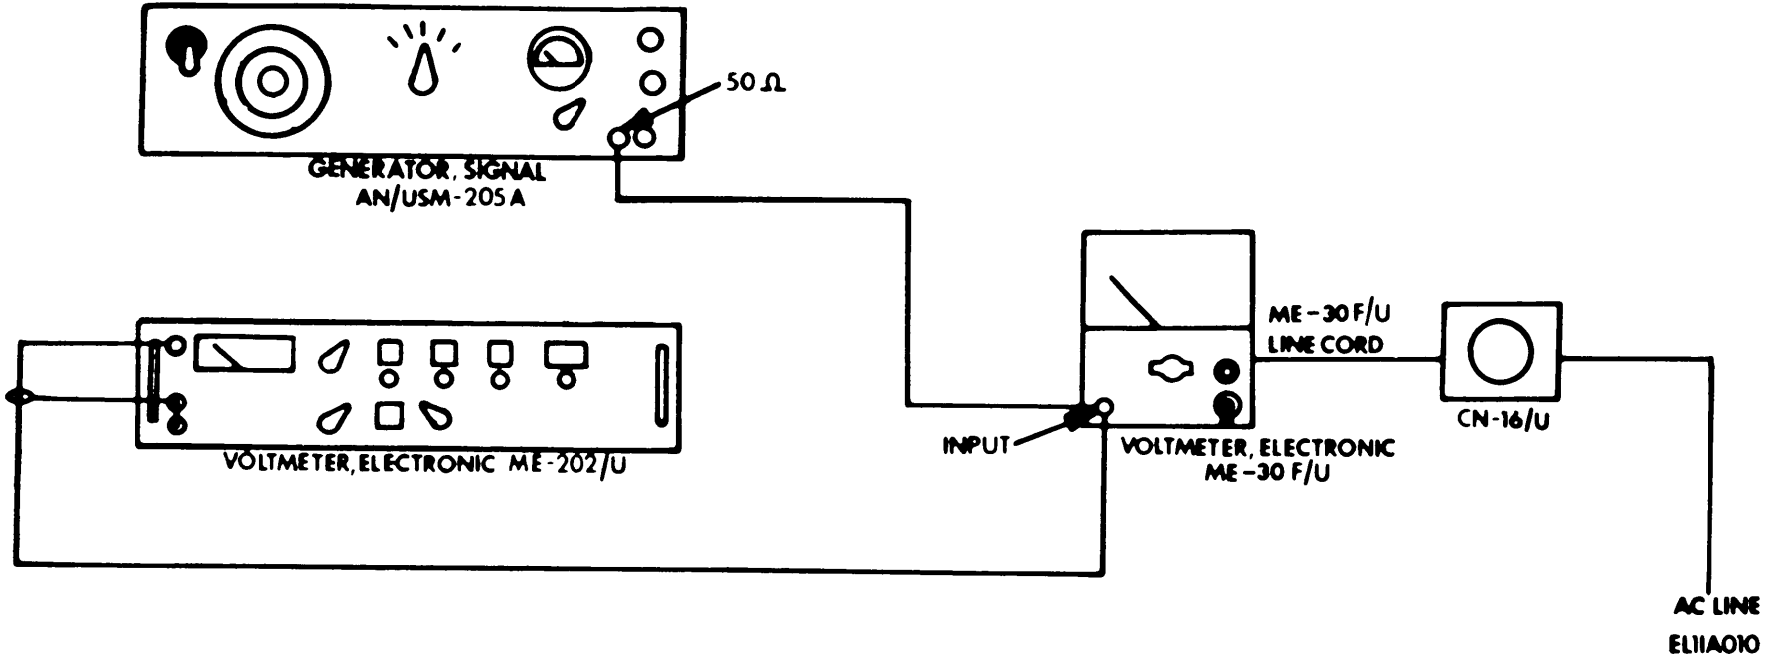

Figure 7-2. Power supply, accuracy, frequency response, and meter tracking test setup.
- a. Set up equipment as shown in figure 7-2.
- (1) Generator, Frequency AN/USM-205A.
- (2) Voltmeter, Electronic ME-202/U.
(3) Transformer, Variable Power CN-16/U.
b. *Test Connections.* Interconnect equipment as shown in figure 7-2.
- (1) Generator, Frequency AN/USM-205A,
(3) Transformer, Variable Power AN-16/U.
b. *Test Connection* Interconnect equipment as shown in figure 7-2.